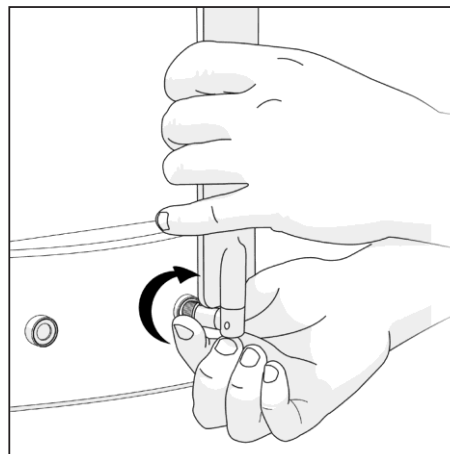

Figure 2.
Firmly hold the antenna housing with one hand, while rotating the SMA(M) connector with the other hand until the connector is tight and holds a fixed position. (See figure 2) Recommended torque is 0.34 - 0.57 NM or 3 - 5in-lbs.